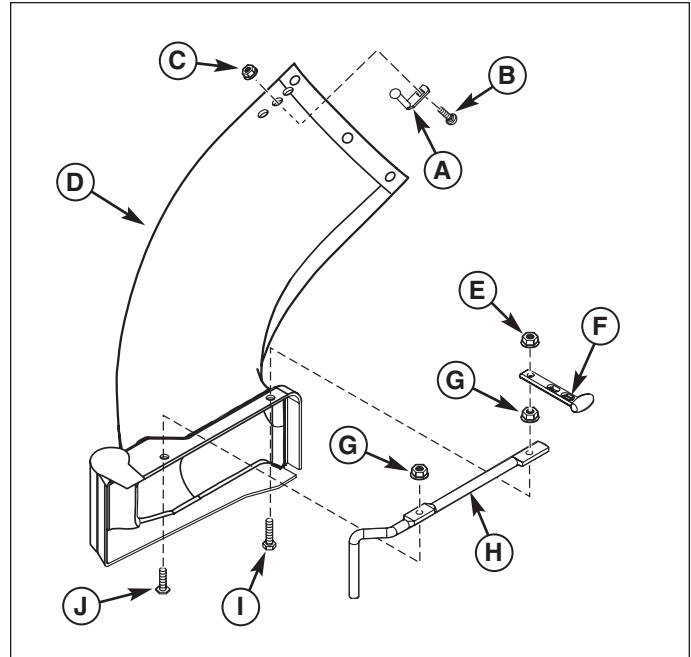

Figure 5. Lower Chute to Boot Installation
1. Insert the head of pin (A, Figure 5) through front hole of lower chute (D). Secure with 1/4-20 x 5/8 carriage bolt (B) and 1/4-20 lock nut (C) as shown.
2. Install the rod (H) to lower chute (D) using 5/16-18 x 1 capscrew (J) and 5/16-18 locknut (G) for front holes. Use 5/16-18 x 1-1/4 capscrew (I) and 5/16-18 locknut (G) as shown. Tighten hardware.
3. Install the rubber strap (F) onto capscrew (I) securing with 5/16-18 locknut as shown.